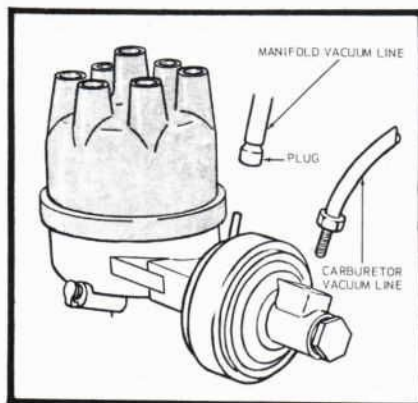

Figure 1—Disconnect Both Vacuum Connections
1. Attach timing light to engine. Remove both vacuum lines at distributor diaphragm assembly and plug manifold vacuum line (See Fig. 1).